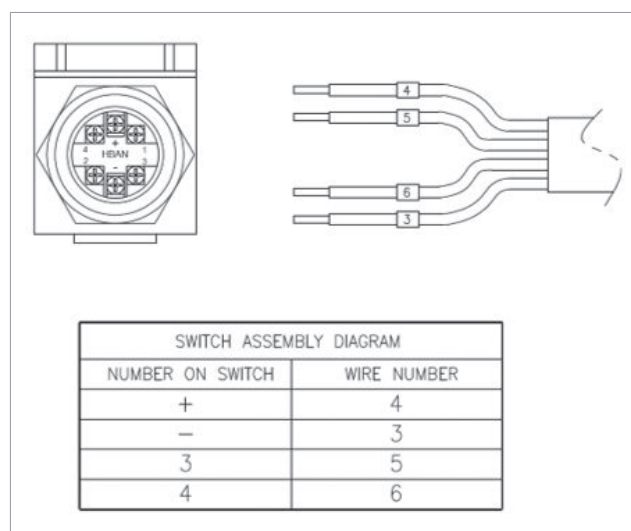

Fig. 44
- 5) To secure back the wiring connections, please follow the Fig. 44 carefully and screw the cables properly.